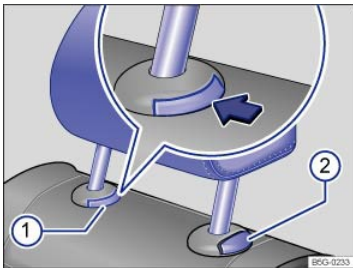
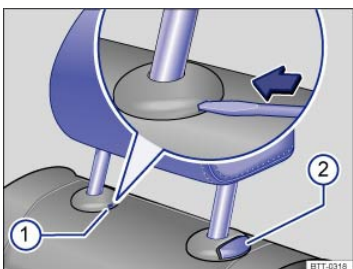

Fig. 47 Removing the rear head restraint (version A).
Fig. 48 Removing the rear head restraint (version B).
- Push button ➔ Fig. 47① in the direction of the arrow and hold it in this position.
- At the same time press button ② while a second person pulls out the head restraint completely.
- If necessary, press the flat blade of the screwdriver from the vehicle tool kit into the slit of the trim cap → *Fig. 48②* in the direction of the arrow and hold it in this position.
- Push the head restraint down while pressing button → *Fig. 47②* or → *Fig. 48②*.